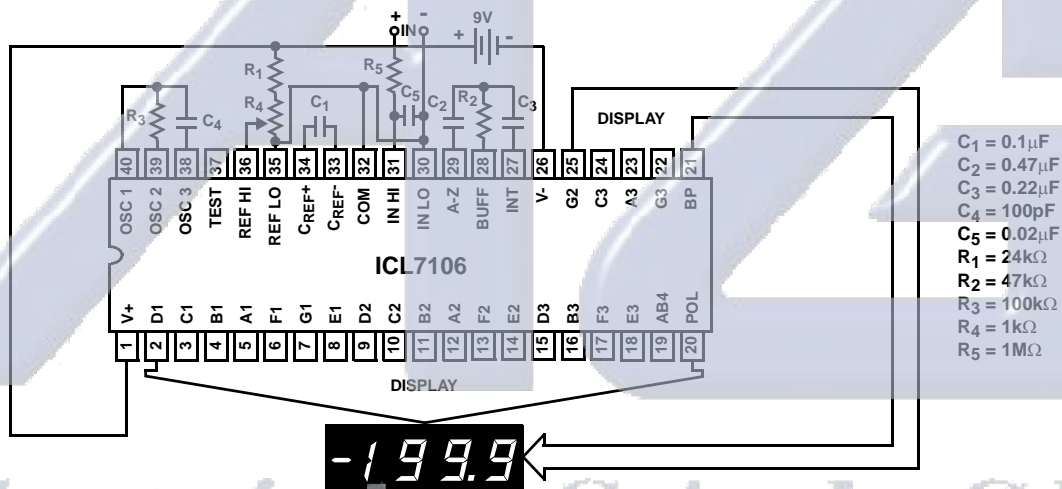
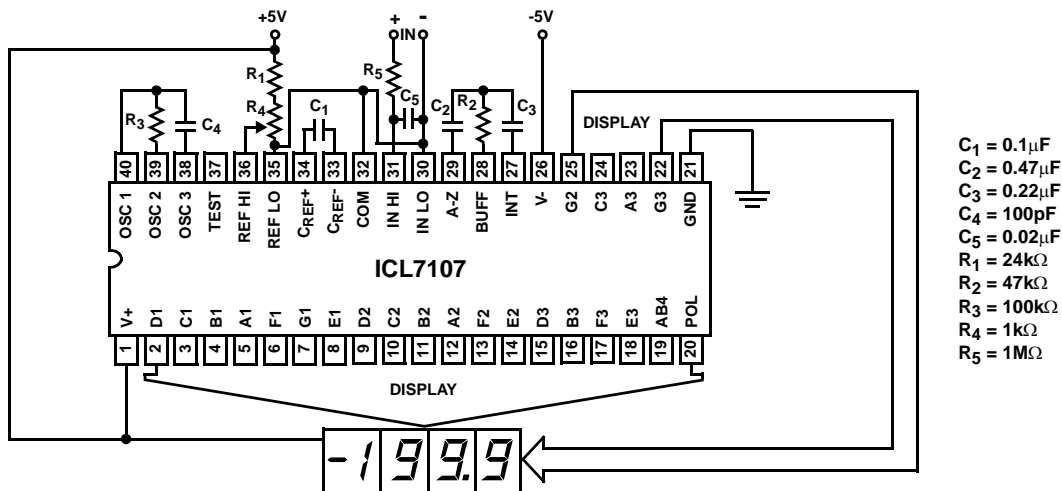

FIGURE 1. ICL7106 TEST CIRCUIT AND TYPICAL APPLICATION WITH LCD DISPLAY COMPONENTS SELECTED FOR 200mV FULL SCALE
FIGURE 2. ICL7107 TEST CIRCUIT AND TYPICAL APPLICATION WITH LED DISPLAY COMPONENTS SELECTED FOR 200mV FULL SCALE
- Unless otherwise noted, specifications apply to both the ICL7106 and ICL7107 at TA = 25°C, fCLOCK = 48kHz. ICL7106 is tested in the circuit of Figure 1. ICL7107 is tested in the circuit of Figure 2.